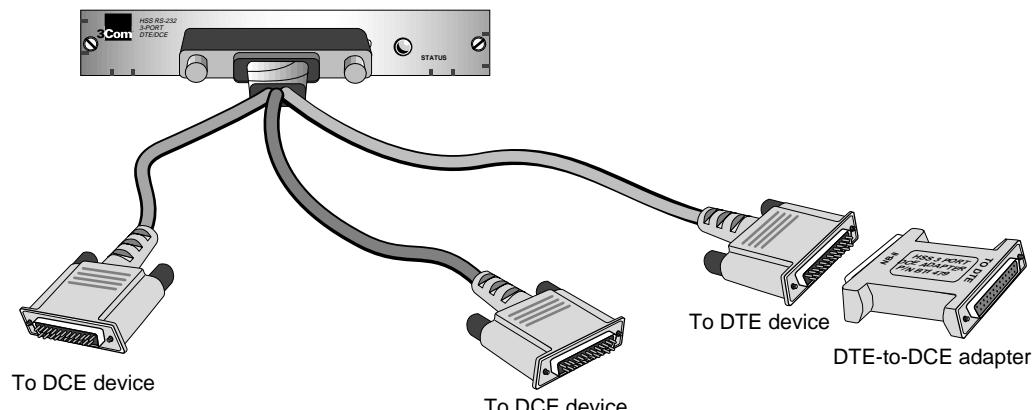

Figure 1-4 Attaching the DTE-to-DCE Adapter
- 4 Attach the end of the DTE-to-DCE adapter labeled "NB II" to the end of the 25-pin connector on the cable. Connect the end of the adapter labeled "To DTE" to the DTE device as shown in Figure 1-4. You can connect the adapter end directly to a DB-25 male connector on the DTE device or to a DB-25 male connector on a cable coming from the DTE device.